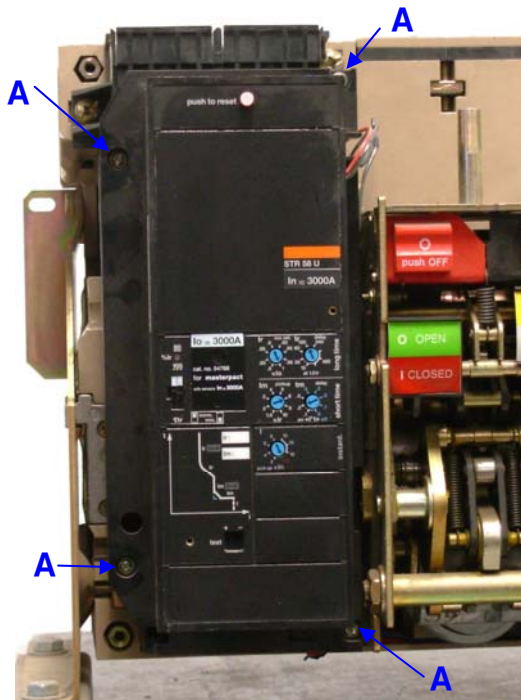

FIGURE 2, VIEW OF ORIGINAL TRIP UNIT
3.4. Remove the *STR* control unit by removing the screws identified as *A* in figure 2. Discard original mounting hardware. If there are additional wires entering the control unit, these can be cut and the wire ends appropriately insulated.